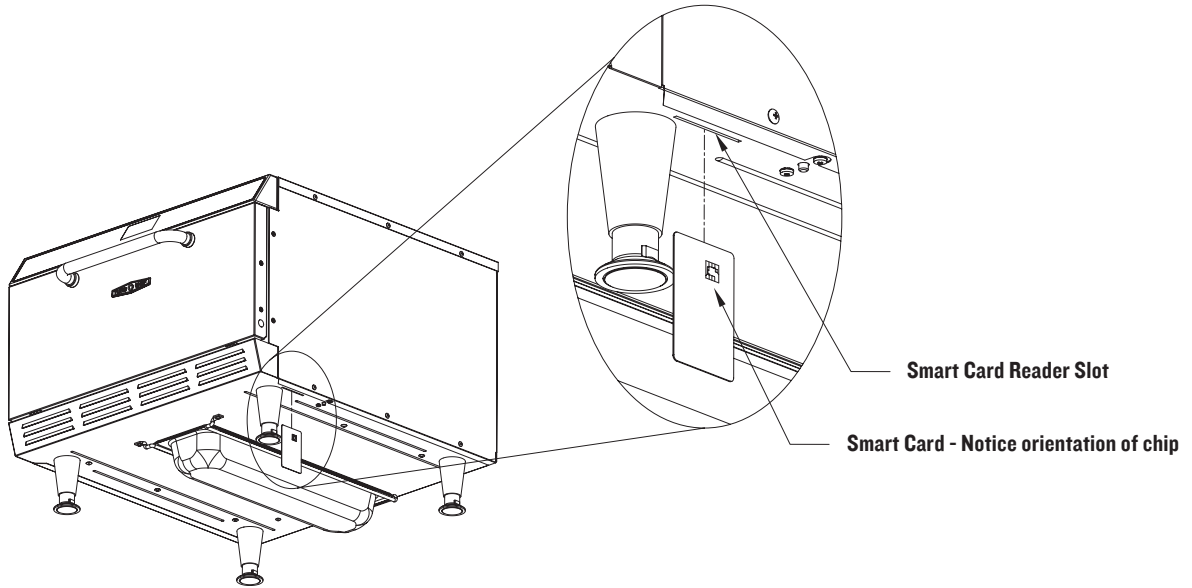

FIGURE 26: Inserting Smart Card into Reader
Loading Menu from Smart Card (Figures 26 and 27)
2. Insert the smart card into the smart card reader. Orient card as shown in Figure 26.
Saving Menu to Smart Card (Figures 26 and 28)
3. Insert the smart card into the smart card reader (Figure 26).